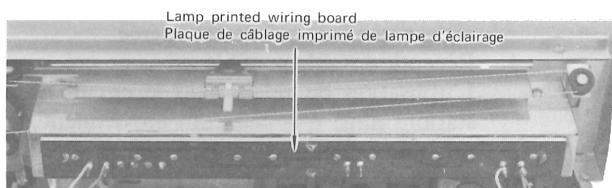

Fig. 3
- (1) Remove the Lamp printed wiring board. (Fig. 3)